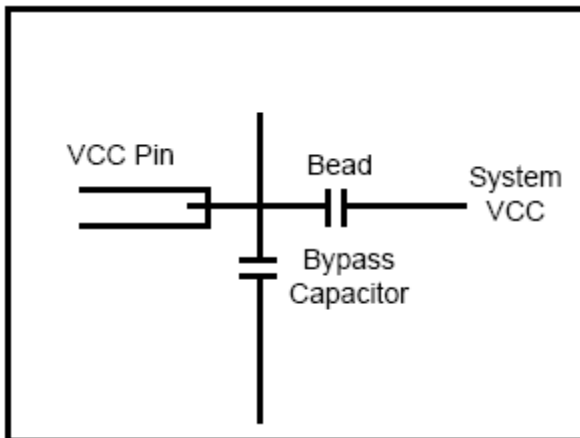

Figure 2 Bead and Bypass Capacitor to Power Pin
3. For better noise immunity, it is recommended to add Bead (300mA minimum) and Bypass capacitor near to the VCC/VCCQ pins. (Figure 2)